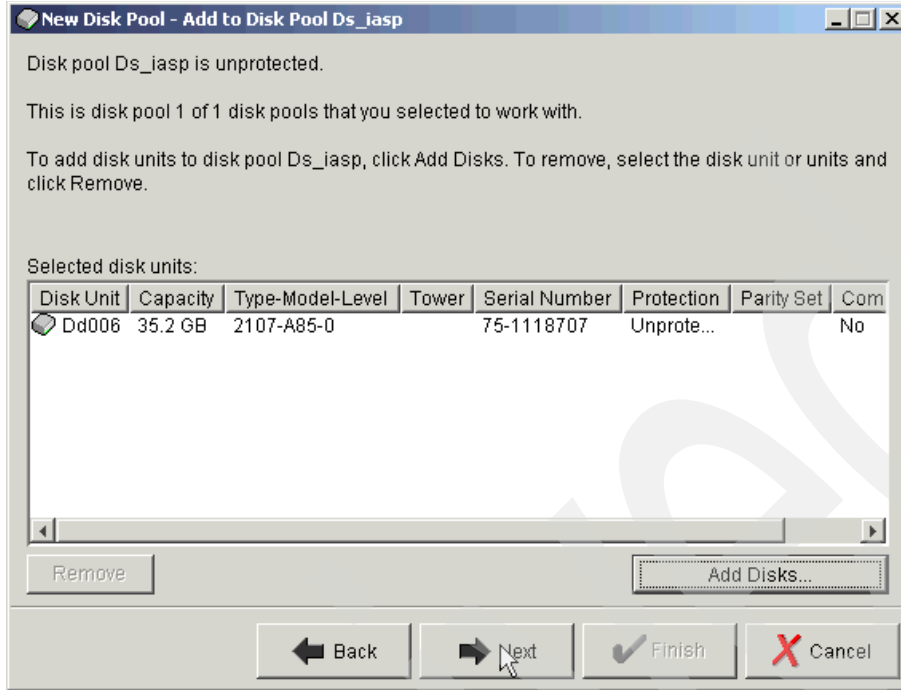

Figure 17-14 Confirm disks to add to disk pool
11. A confirmation window opens, as shown in Figure 17-14. Click **Next** to continue.